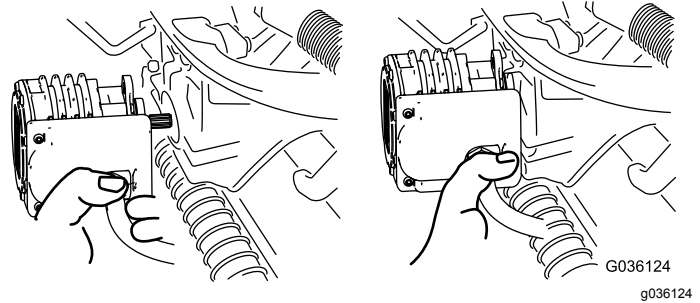

Figure 55
4. Move the motor to the storage location on the front of the suspension arm (Figure 55).